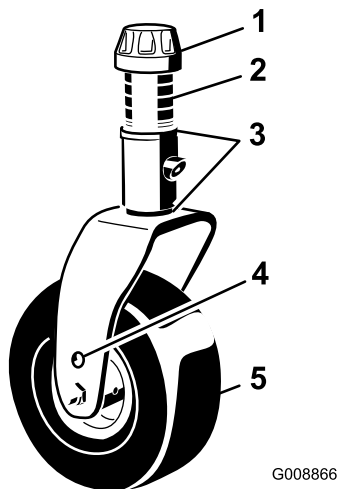

Figure 95
1. Remove the tensioning cap from the caster-spindle shaft and slide the spindle out of the caster arm (Figure 95).